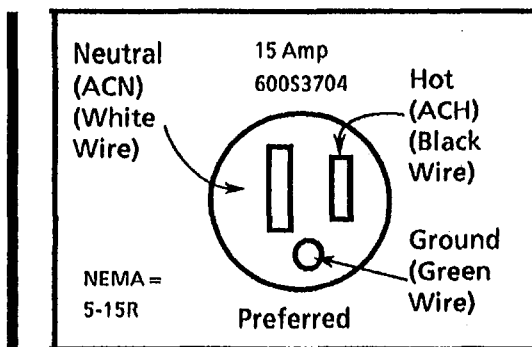

Figure 1. Checking the ground, voltage, and polarity
1. (Figure 1): Check the ground, voltage, and polarity.